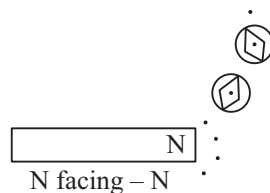
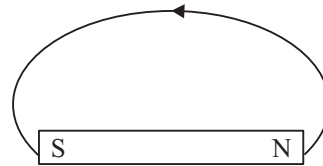

Fig. 28.5
Fig. 28.6
- (i) To determine the voltage gain A produced by the transistor with 1 k ohm load resistance R_o , connect the circuit as shown in Fig. 28.6. Keep the wiper of rheostat at zero. Keep $R_i = 4 \text{ k ohm}$.
- (ii) Take a small compass box. Place it near the N-pole of the bar magnet with its pointer pointing towards the pencil dot marked near the N-pole (Fig. 28.5). Mark the dot on the other side of needle. Move the compass box to the second marked dot, again mark a dot near the far end of needle. Repeat this process till you reach the S-pole. You will get a chain of dots which can be joined by a smooth curved line, as shown in Fig. 28.6.